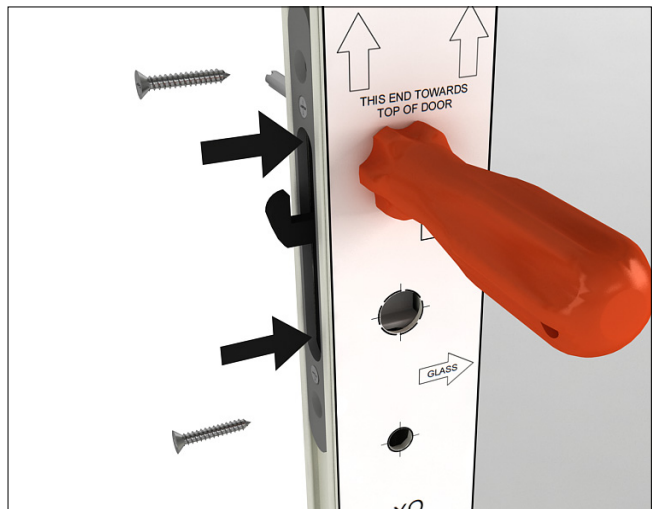

Figure 8
7. Reinstall the lock box and secure with the two Phillips screws removed in step 4. See figure 8.